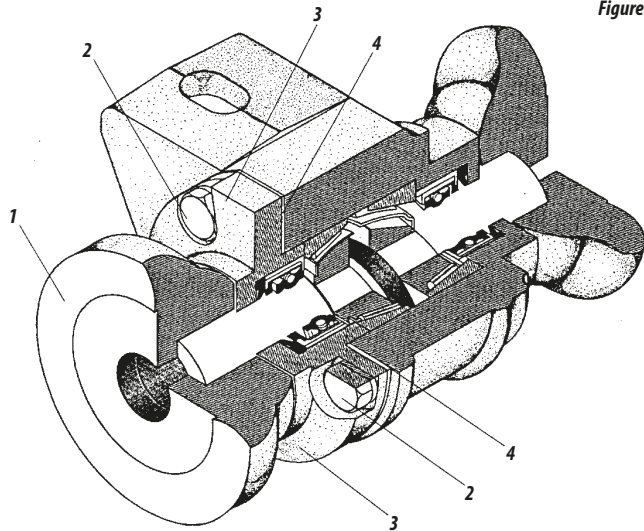

Figure 18
- 01 - Take the washer out item 1 figure 18.
- 02 - Release the bolts item 2 and take the lid item 3 out.
- 03 - Take the joints 1 or 2 item 4, out of the lid bearing. Put it again and tighten it.
- 04 - If the looseness is still, turn the lid item 3, to increase the adjustment after assemble the lid on the bearing with as many joints as it is necessary.